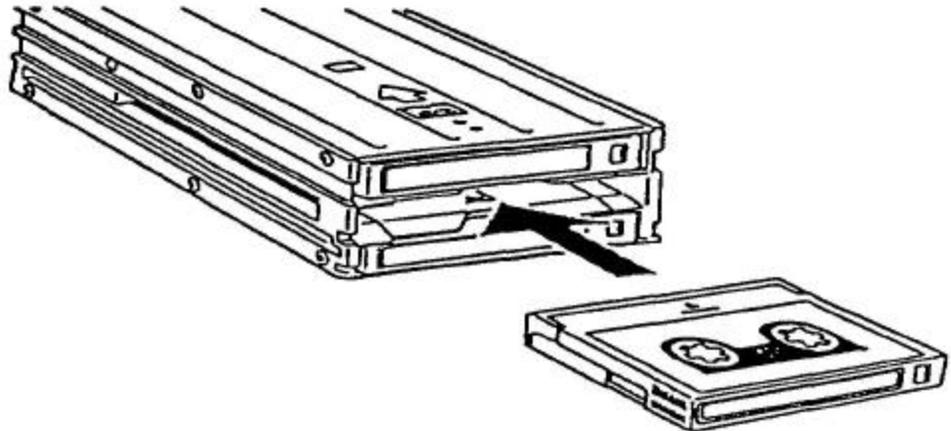

Figure 3-8. Inserting a cartridge into the middle magazine shelf
3. Data cartridge should be inserted in the middle shelf of the magazine (No. 8). A cleaning cartridge can be inserted instead of data cartridge on it depending on application software, see Figure 3-8.